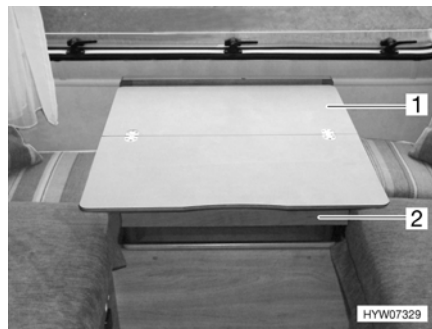

Fig. 29 Folding table, bedside locker
- Pull the complete cover plate of the bedside locker (Fig. 29,2) forwards.
- Fold the upper part of the cover plate (Fig. 29,1) backwards (Fig. 29).